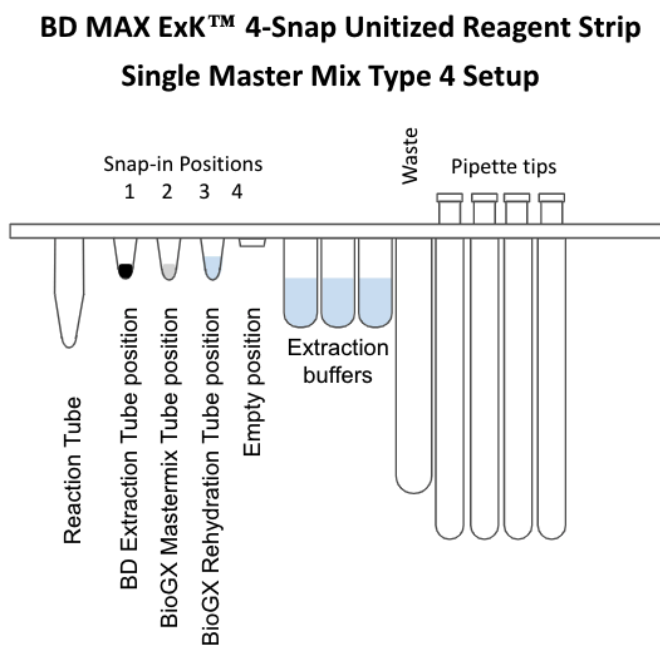

Figure 1. Diagram of BD MAX™ ExK™ 4-snap Unitized Reagent Strips.
3. Snap one BD MAX[™] ExK[™] TNA Extraction tube into snap-in position 1 (Snap-1) of each extraction strip (**Figure 1**).